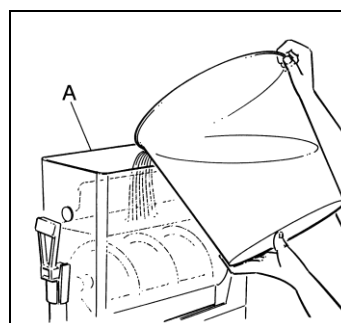

Fig. 17
- Pour the mix obtained into the bowl respecting the maximum capacity of 12 litres (see fig.17).